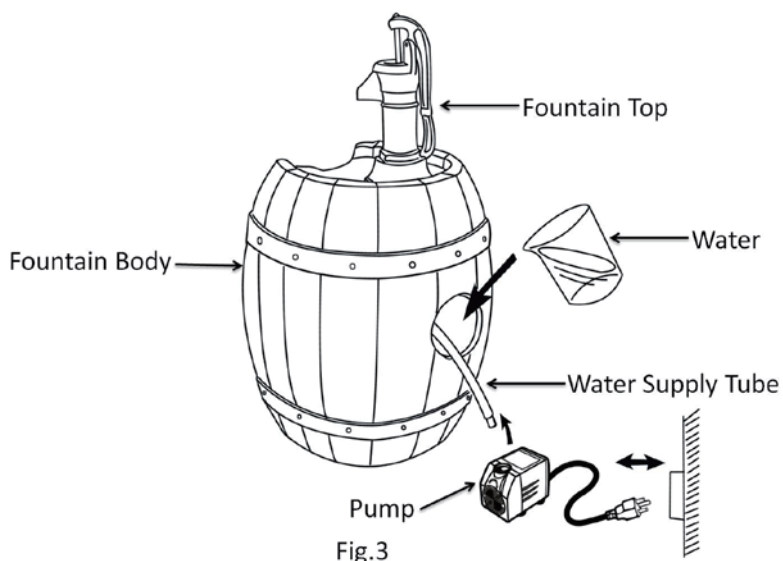

Fig.3
4. Take out one end of the water supply tube from the pump house in the back of the body and connect it with the water outlet of the pump. and then place the pump upright into the fountain body (Fig.3)
5. Add clean water into the body till. The water level should be approximately 0.8 in.(20mm) lower than the hole of the fountain body. Connect the pump power cord to a GFCI outlet and the product will begin to function as intended. (Fig. 3)